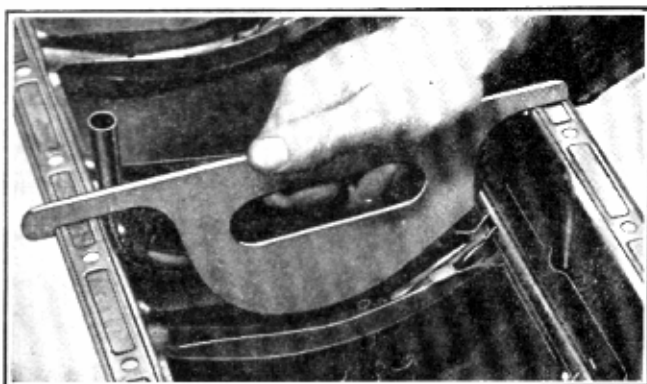

Fig. 45—Checking Oil Nozzle Height
1. Check the oil nozzle height for connecting rod dipper clearance, using the oil nozzle depth gauge, J-969-3, Fig. 45. Remove the oil pan gasket and hook the edge of the gauge over the pan rail, with the side of the gauge marked "FRONT" toward the front of the oil pan.